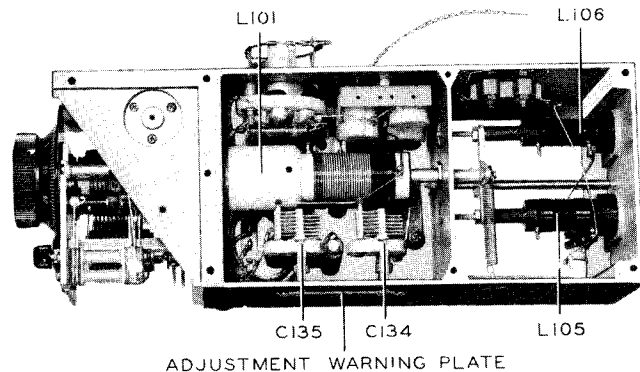
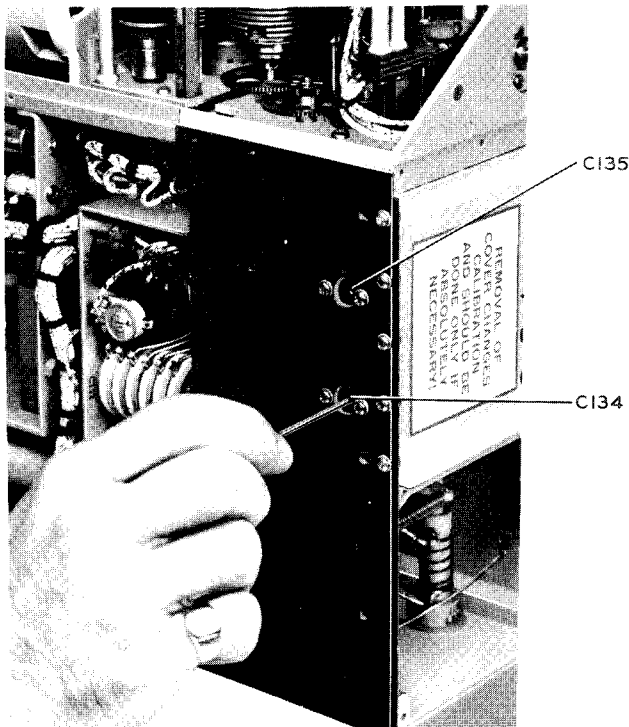

Figure 5-6. High Frequency Oscillator
Figure 5-7. High Frequency Oscillator Adjustment
c. HIGH-FREQUENCY OSCILLATOR ALIGNMENT USING CFI. (Refer to figure 5-6. and figure 5-7.)
(1) If the high-frequency RF circuits are to be realigned in the field, where no frequency measuring equipment is available, the calibration oscillator may be used to check the band end-point frequencies. However, if coils, transformer cores, capacitors, etc., in the oscillator circuit require replacement, an accurate means of measuring frequency must be used together with a portable frequency meter to check the harmonic output of the frequency multiplier.
(2) For realignment when a frequency stand-
(o) Adjust trimming capacitor C134, (figure 5-6. and figure 5-7.) until zero beat is obtained between the output of the HF oscillator and the output of the calibration oscillator.
(t) While listening to the SIDETONE output, adjust trimming capacitor C135 (figure 5-7.) until zero beat between the high-frequency oscillator output and the calibration oscillator output is obtained.
(n) Measure the output frequency of the oscillator and adjust capacitor trimmer C134 (figure 5-7.) until the frequency of the oscillator output is exactly 1500 kc.
(s) Adjust trimming capacitor C135 (figure 5-7.) until the oscillator output frequency is exactly 1200 kc.